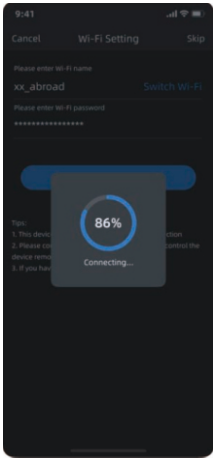

Figure 5
5)Figure 5: WiFi "**Connecting**", waiting for feedback on connection results;If the connection fails, you can try adding the device again based on the reason for the failure.